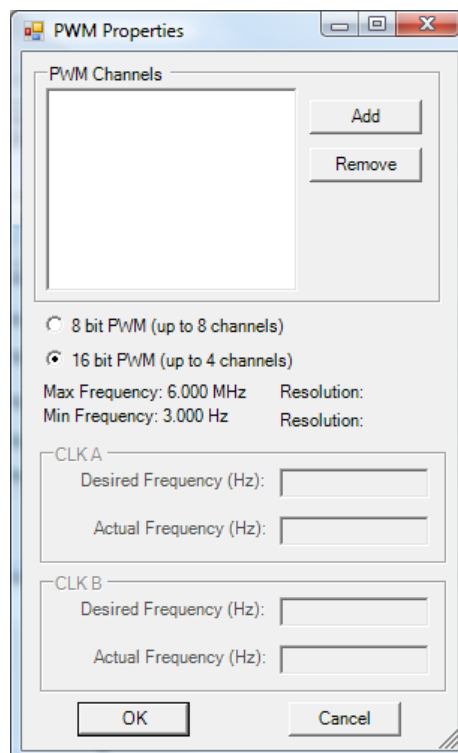

Figure 45- PWM Properties Window
3. Click the **PWM PROPERTIES** button. The PWM Properties Window will open. Refer to Figure 45.